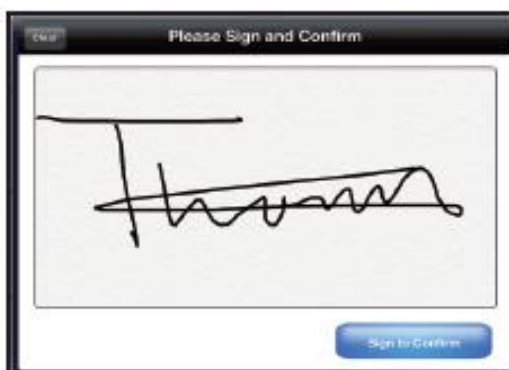

Fig. 5.8 Signature
② Doctor confirm: Sign your name to confirm the diagnosis. The signature is kept for printing and email (See Fig.5.8).